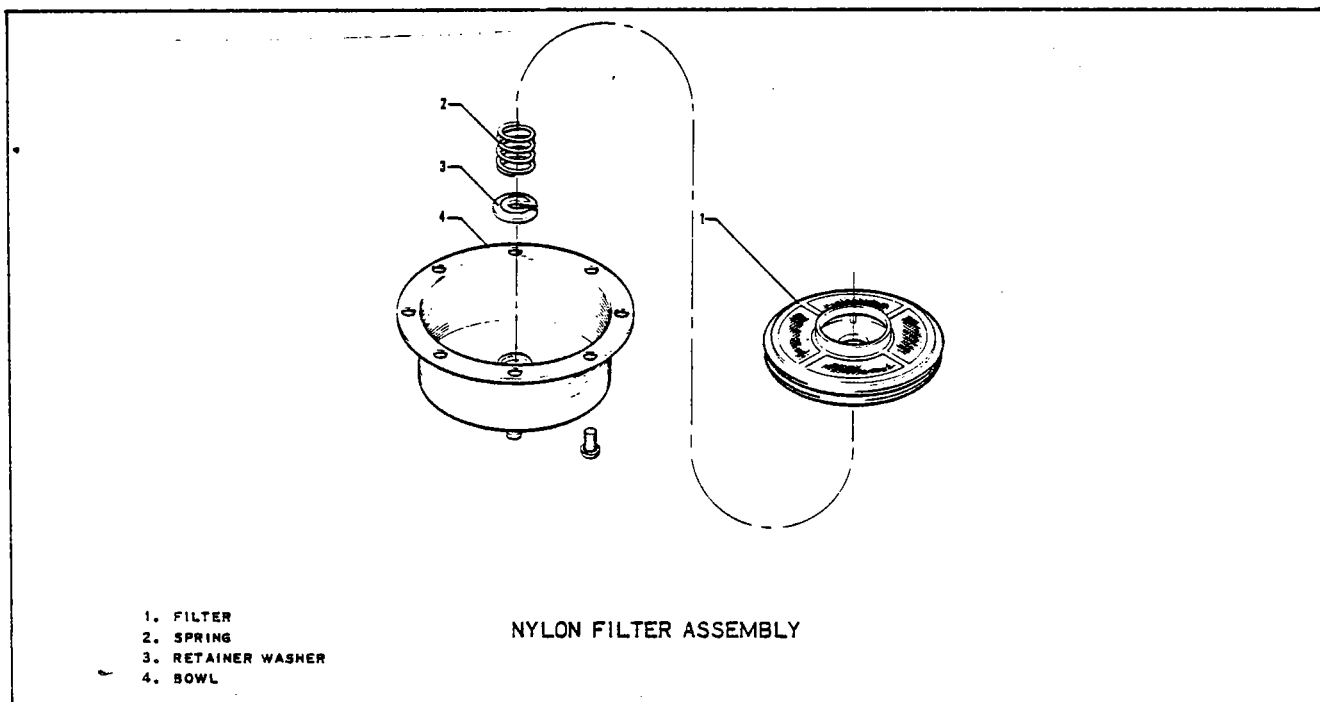

Figure 28-4. Fuel Filter
3. Remove filter disc assembly from center stem by compressing filter retainer spring and removing filter retainer washer. (Refer to Figure 28-4.)